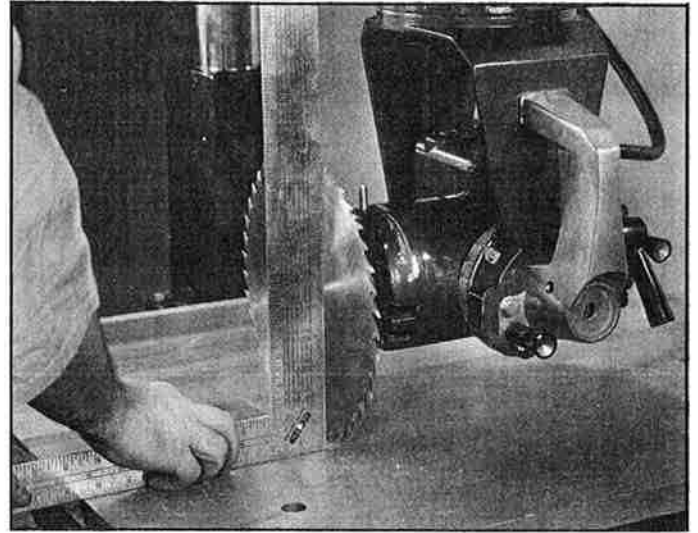

Fig. 21
1. Remove the blade guard, place cuttinghead in cut-off position over fixed portion of table, as shown in Fig. 21.
2. Place a steel square against saw blade, as shown in Fig. 21. Be sure square is between the teeth of the blade.